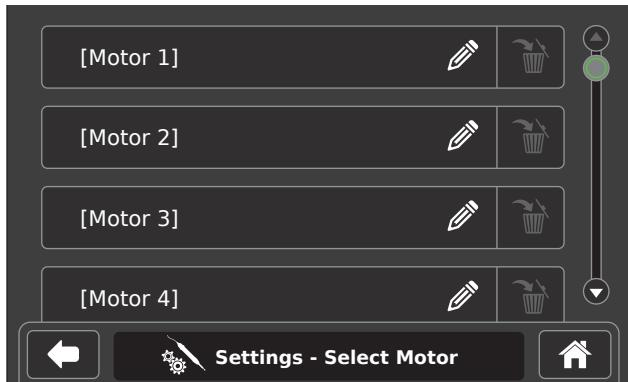

Figure 14 – Select Motor Screen
2. From the list, touch the motor to edit (Figure 14).